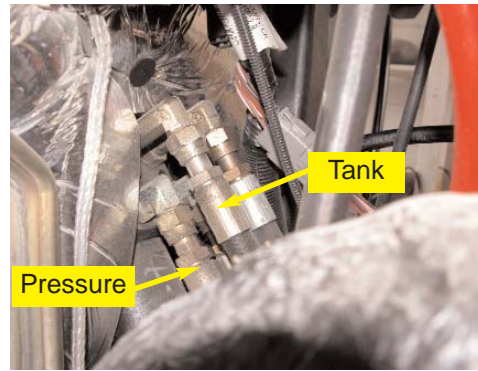
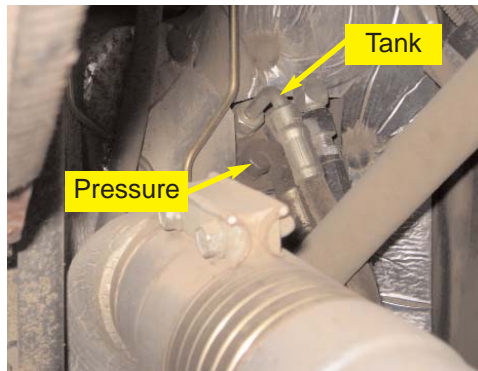

Figure 6a. Pressure and tank location.
Figure 6b. Pressure and tank location.
- a. The automated steering block will make pressure and tank connections at the steering orbital. (Figure 6a.) Some tractor models will have elbow fittings on the hoses as shown in Figure 6b.